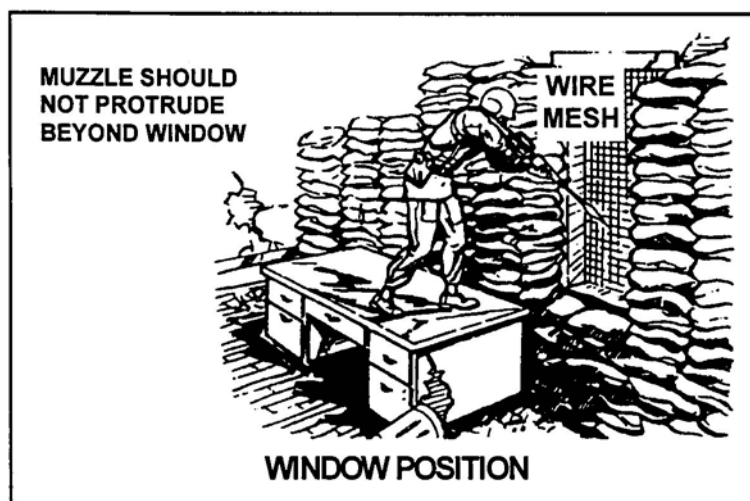

Figure 1. Barricaded window.
- a. Barricade windows. Window-firing positions can be improved by barricading around the window (Figure 1). The window may be completely covered, leaving only a small hole for the firer's use. When barricading windows: